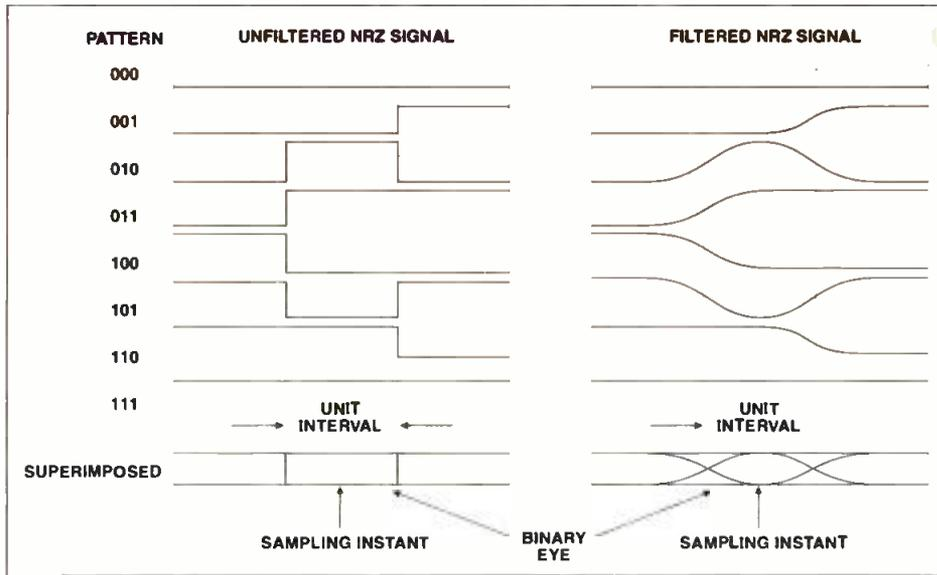

Figure 1. Formation of the eye pattern from superimposed binary patterns.
**D**istributing digital signals requires converting the signal into an analog physical representation at the sending end (the transmitter) and interpreting that representation to extract the data at the receiving end. The eye-pattern (or eye diagram) is used in specifying and verifying the characteristics of a bit-serial digital signal. The name results from the appearance on a storage oscilloscope of sections of digital symbol patterns superimposed on one another. For an infinite-bandwidth system, the transitions from 0-to-1-to-0 are instantaneous; consequently, the eye is square. However, practical systems have a finite bandpass, resulting in transitions with a slower risetime and the familiar eye shape. Figure 1 shows the formation of an eye pattern from superimposed binary patterns. Bit-serial digital signals are specified in terms of frequency and amplitude-related effects, such as eye amplitude, risetime and decay time, overshoot and undershoot, as well as jitter, a timing-related disturbance.